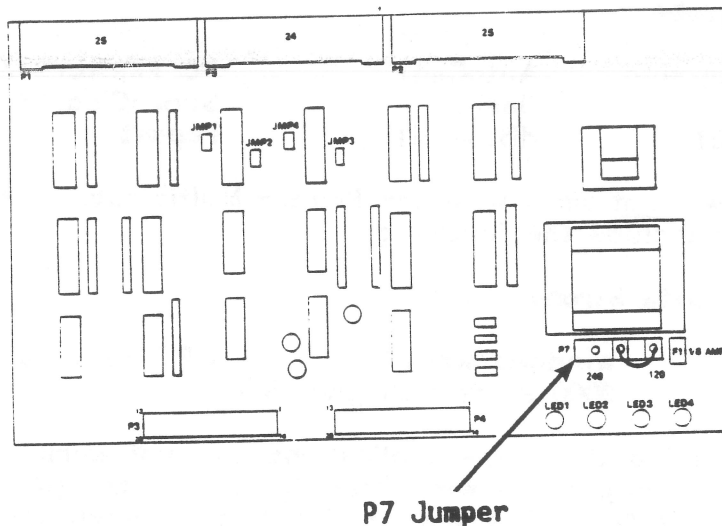

Figure 3 Multiplexer circuit board and location of jumper P7
- b. With the cover removed, locate the 117/240 volt jumper block (P7) on the multiplexer circuit board (see Figure 3 below). The jumper block has three wire lugs that are labelled; 240, COM and 117. Leave one end of the jumper wire connected to the COM lug and then move the other end of the wire to either the 117 lug, or the 240 lug. The line fuse F1, located to the right of P7, does not need to be changed after moving the jumper.